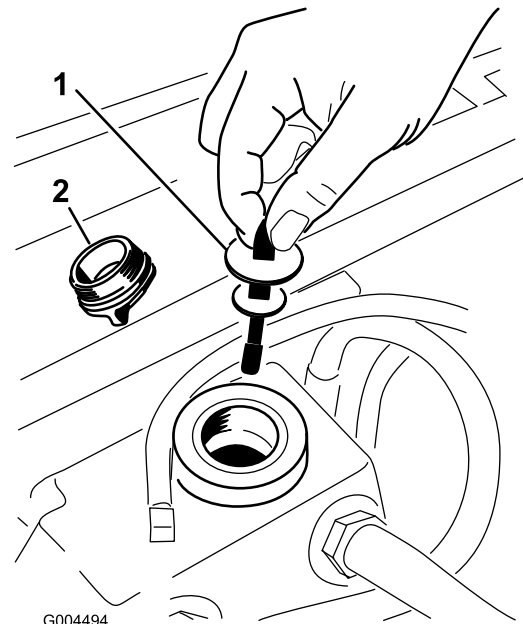

Figure 79
5. Remove the hydraulic fill cap from the filler neck (Figure 79).
6. Remove the dipstick and wipe it with a clean rag (Figure 79).
7. Place the dipstick into the filler neck; then remove it and check the level of fluid (Figure 79).